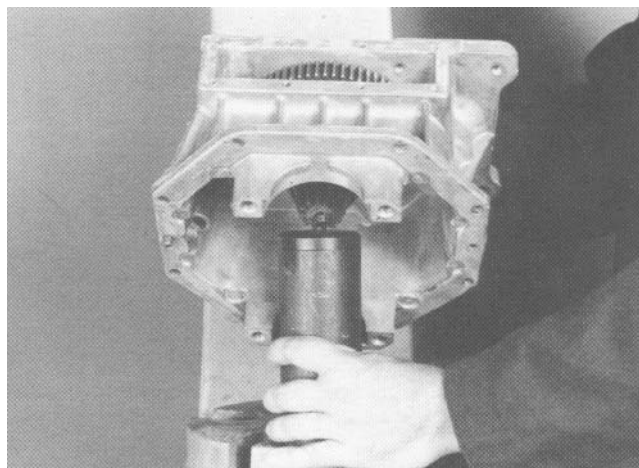

Figure 30
7. Support the drive pinion in a suitable press (Fig. 30).